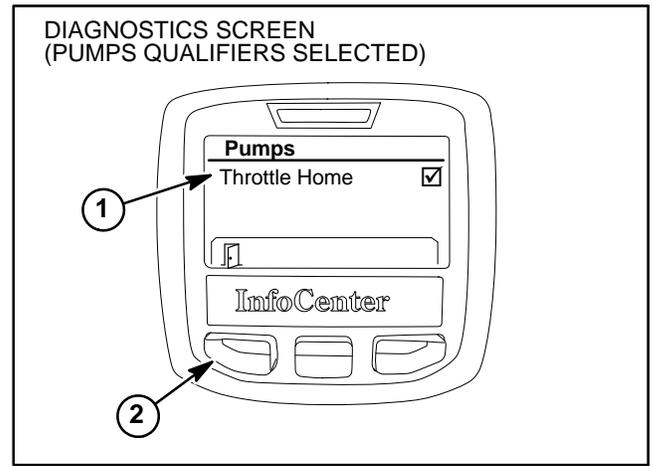

Figure 26
7. Manually operate each qualifier listed (Fig. 26). The qualifier condition on the InfoCenter display should alternate  and  as the qualifiers condition is changed. If  and  do not alternate during qualifier operation, the qualifier component or its circuit wiring is faulty and should be tested (see Component Testing in this chapter).